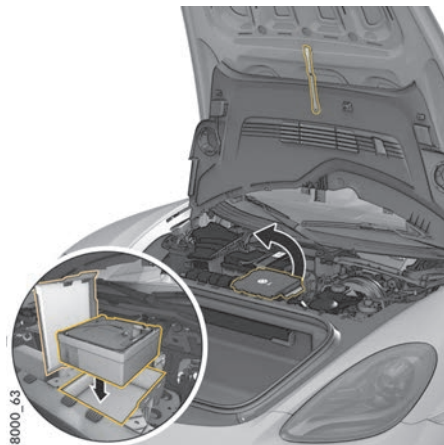

Fig. 116: Replacing tyre filling compressor
1. Place the tyre filling compressor in the storage compartment (Fig. 116).